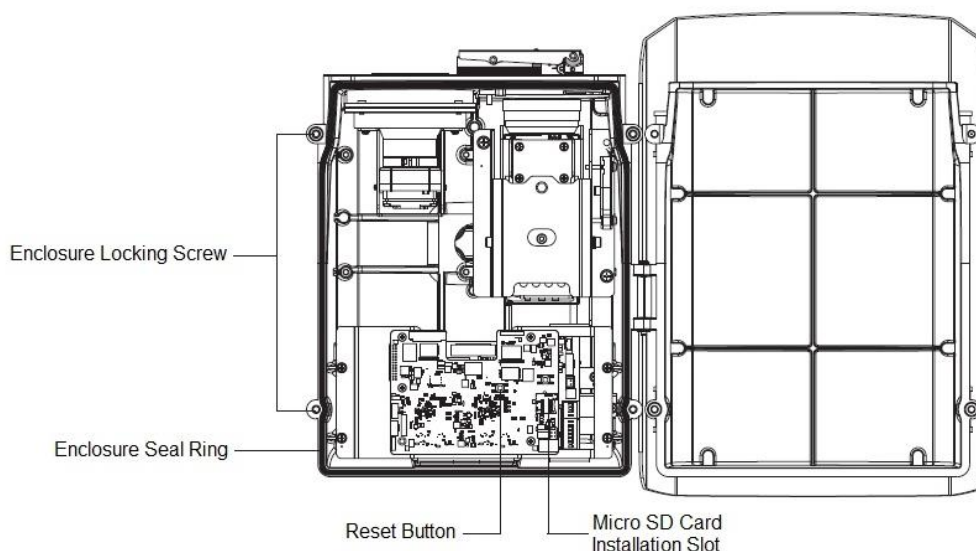

Figure 2-1
Step 1 Loosen the screws on the lower cover. You can see the SD card slot and reset button after opening the lower cover, which is shown in Figure 2-1.